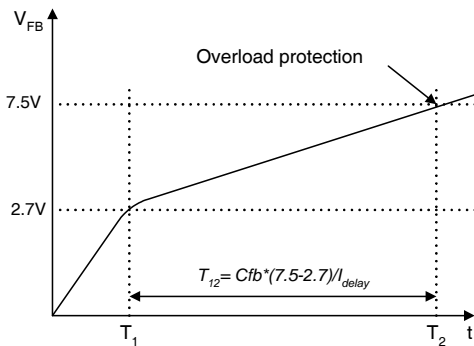

**Figure 25. AOCP block**
**3.1 Abnormal Over Current Protection (AOCP):** When the secondary rectifying diodes or the transformer pins are shorted, a steep current with extremely high  $di/dt$  can flow during the LEB time. Therefore, the abnormal over-current protection (AOCP) block is added to ensure the reliability, as shown in Figure 25. It turns off the SenseFET within 300ns after the abnormal over-current condition is sensed.